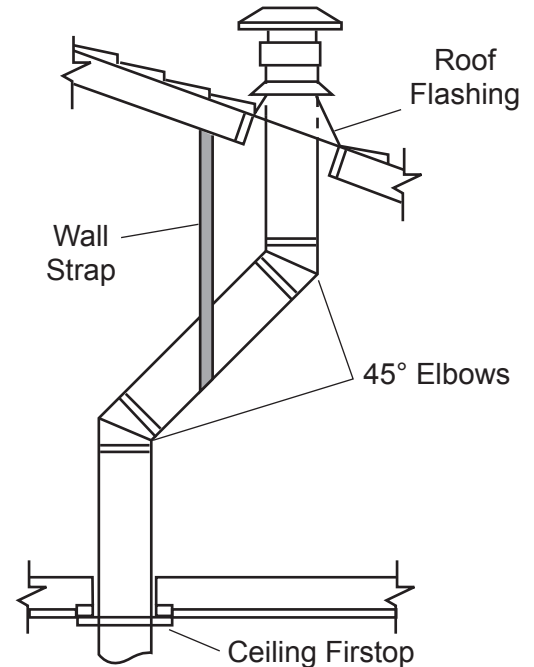

Figure 33 - Offset with Wall Strap and 45° Elbows
1. Determine the route your vertical venting will take. If ceiling joist, roof rafters or other framing will obstruct the venting system, consider an offset. See Figure 33 to avoid cutting load bearing members.